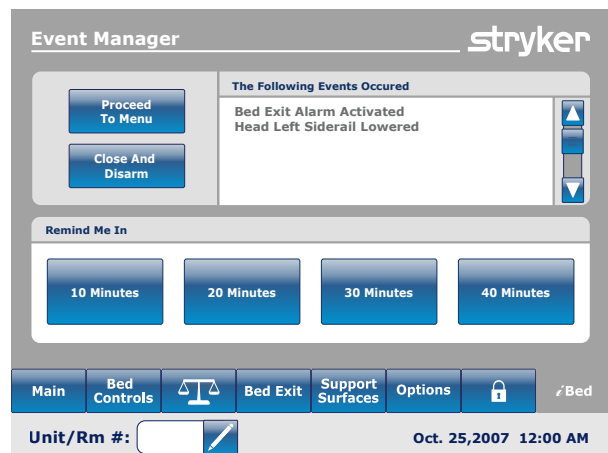

Figure 10.2
- The Event Manager window appears as shown in Figure 10.2.